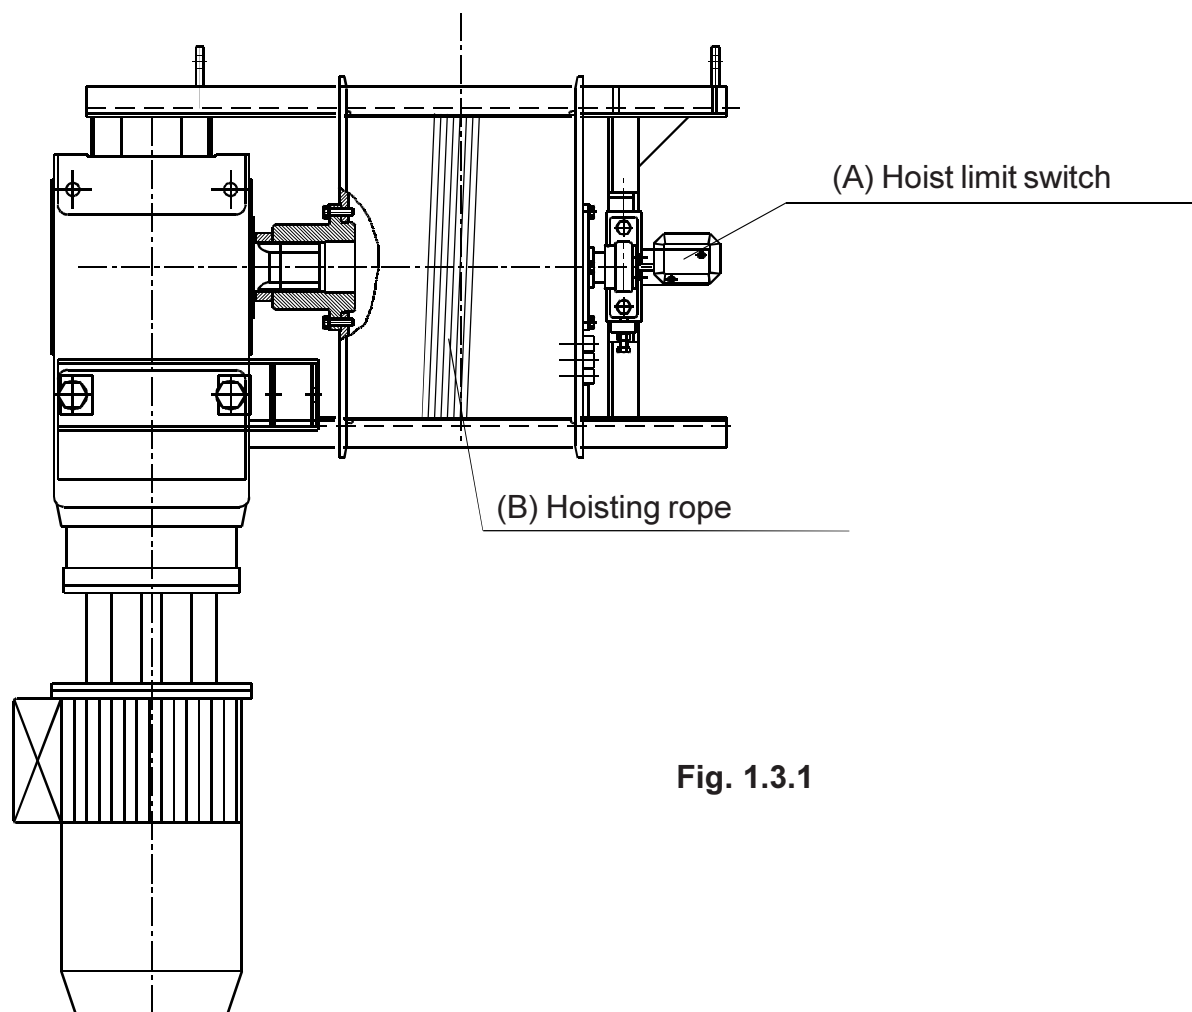

Fig. 1.3.1
The 30 AFC 40 F12 hoist winch is provided with hoist limit switch (A) (fig. 1.3.1).
Hoisting rope (B) is usually supplied already coiled on the winch drum (fig. 1.3.1).